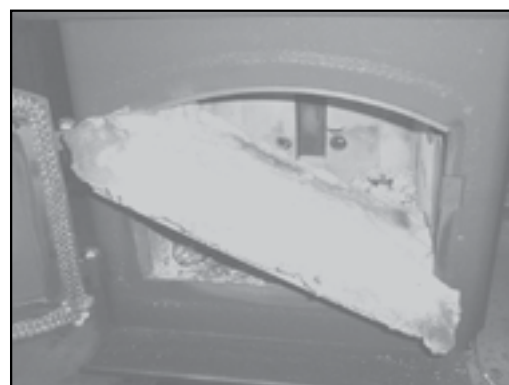

FIGURE 24C - Baffle with ceramic blanket on top.
4. Slide baffle and ceramic blanket forward to front of stove, tilt down and slide to the door. Tilt to one side and slide both through door at the same time. Keep them tilted as you lift it out of the door. See Figure 24C.